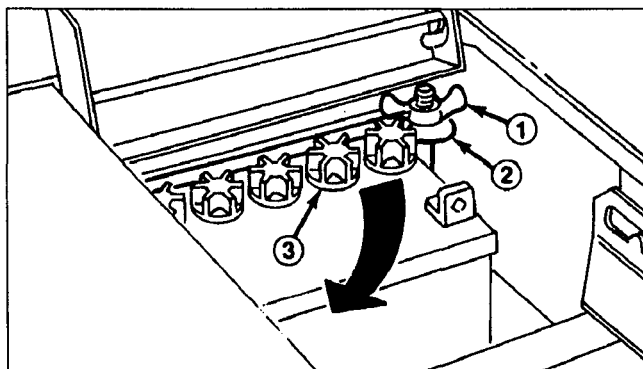

Figure 5
2. Remove wing nut securing battery hold downs to rider chassis (Fig. 5).